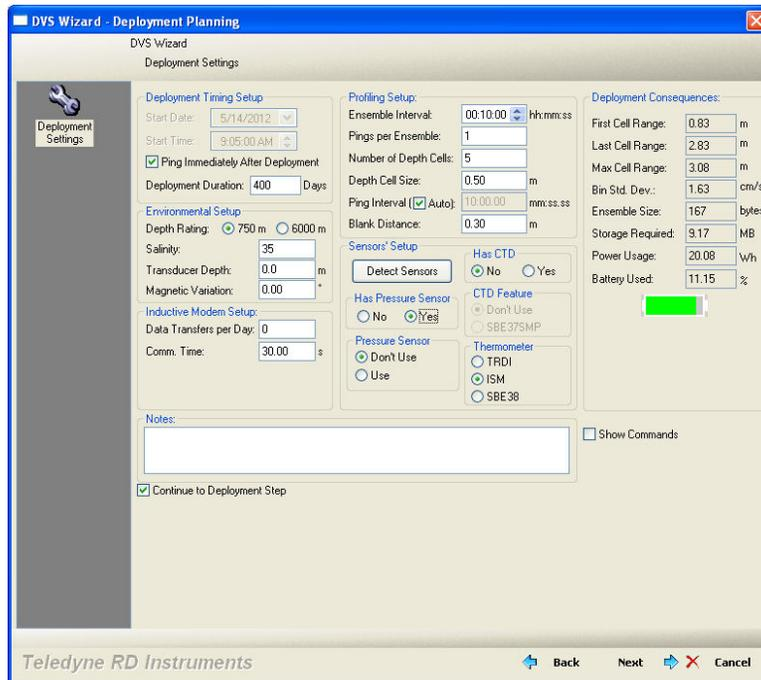

Figure 14. DVS Wizard – Deployment Settings
2. A command file must be loaded into the *DVS* software, either having been generated in the planning module (see Using the Deployment Wizard), or loaded directly from the **File, Open** menu. In either case, the *DVS* software display should be at the **Deployment Settings** screen as shown in Figure 14.